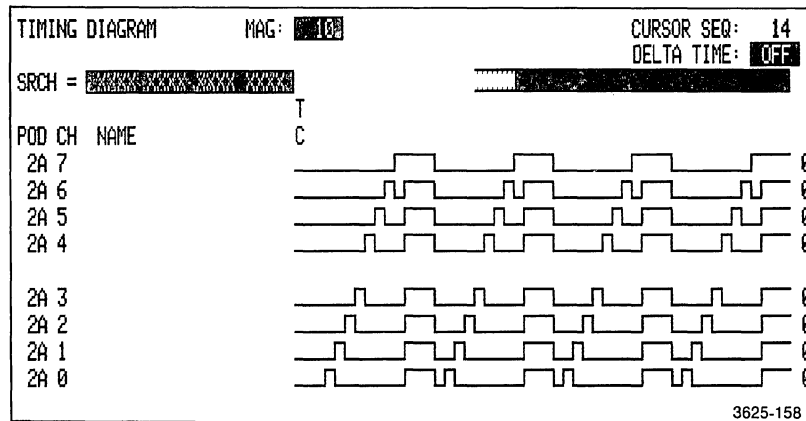

Figure 5-30. 91P16 pause test results.
- When displayed on the Timing Diagram menu, the data acquired from the pattern generator should look like the data shown in Figure 5-30.
A display like Figure 5-30 means the pause signal is being properly received and reacted to. Note in particular that the FF value is twice the width of the other data.
- Enter the Timing Diagram menu when acquisition is finished. The display should match Figure 5-30.